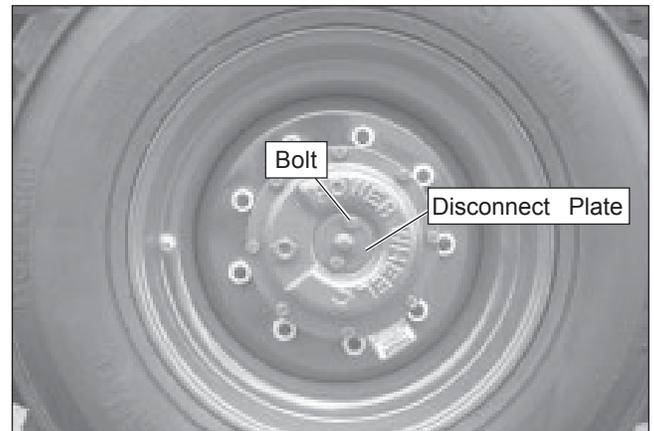

Figure 10.6 – Drive Wheel
7. At each drive wheel, remove the two bolts from the disconnect plate (refer to Figure 10.6). Turn the plate over so the nipple points inward. Reinstall the two bolts.
11. At each drive wheel, remove the two bolts and return the plate to its original position as shown in Figure 10.6.